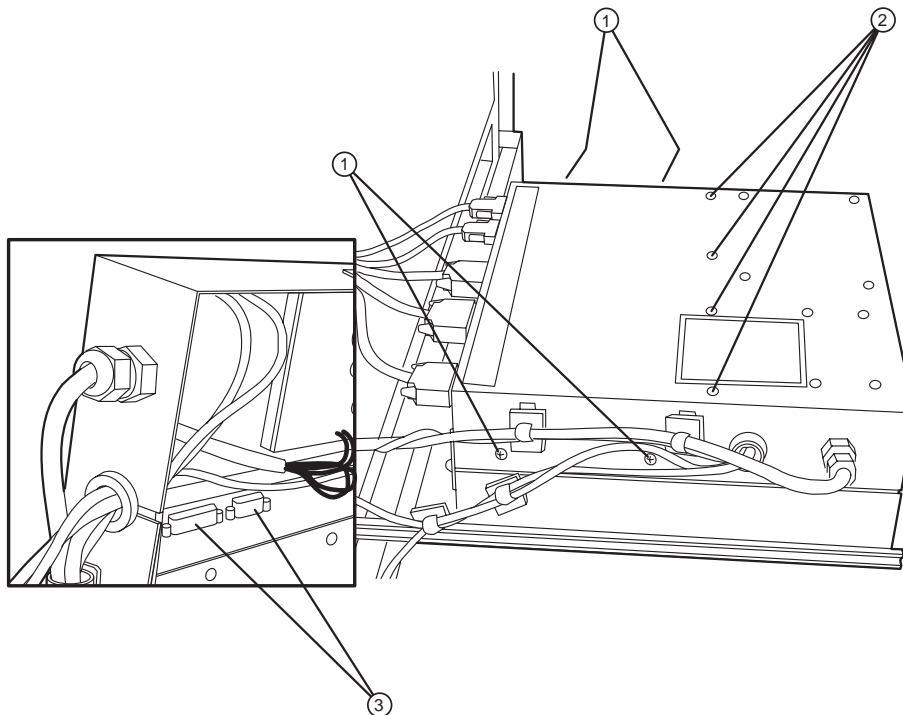

Figure 3-4 Electronics box side/top screws and power cables.
①— Electronics box. ②—Four rear screws.
8. Using a phillips screwdriver, remove the four (4) screws on the top and the two (2) screws on each side of the box. Refer to Figure 3-4.
- b. Power board cableRefer to Figure 3-4.